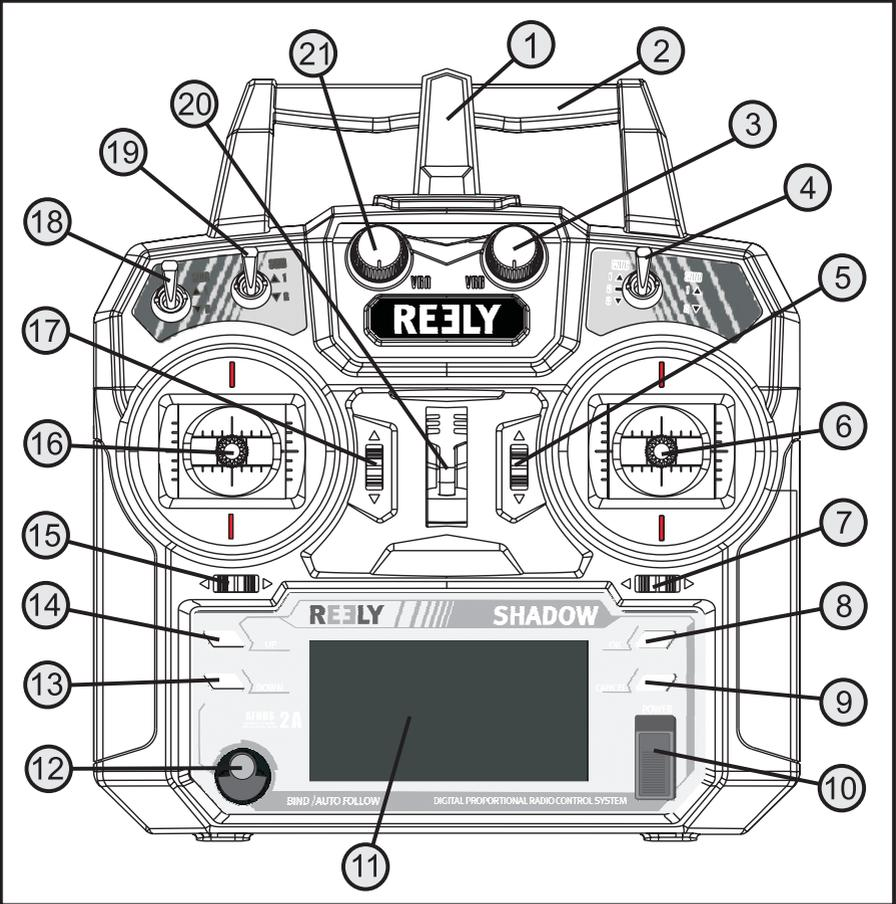
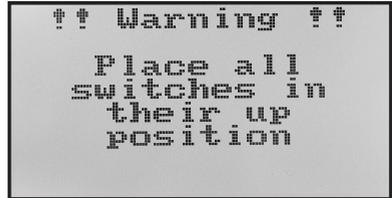

Figure 7
Figure 11
Front (figure 7):
After you have inserted four new batteries, check the position at the toggle switches. All switches must be in the front/top position. The two control sticks are held in the middle position by spring power. Now switch on the transmitter using the on/off switch (see fig. 7, item 10).
➔ If one of the three toggle switches (see figure 7, item 4, 18 and 19) is not in the front position, warning sounds will be emitted when activating and the corresponding note is displayed (see figure 11).